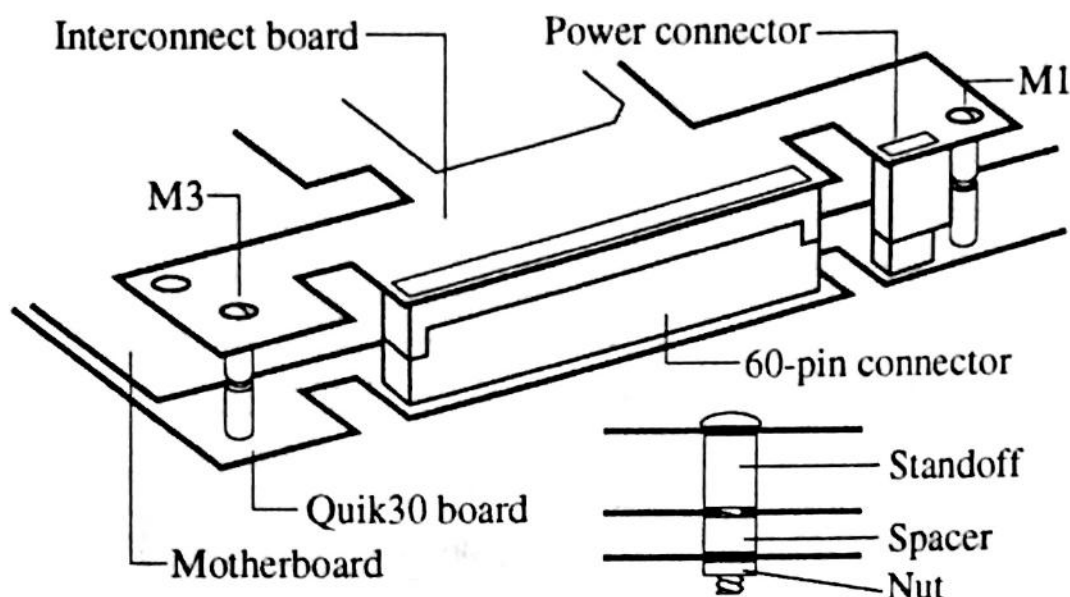

Figure 4 - Quik30 and Interconnect board
3. Locate the Interconnect board and remove the two vinyl nuts and the two spacers from the standoffs on either side of the 60-pin connector. Refer to Figure 4 for location.
8. With the motherboard face down, hold the interconnect board securely in place. With the Quik30 component side up, insert the two standoffs on the interconnect board into the two mounting holes M1 and M3. Line up the Power connector over the four holes closest to the 60-pin connector on the Interconnect board. See Fig.4.